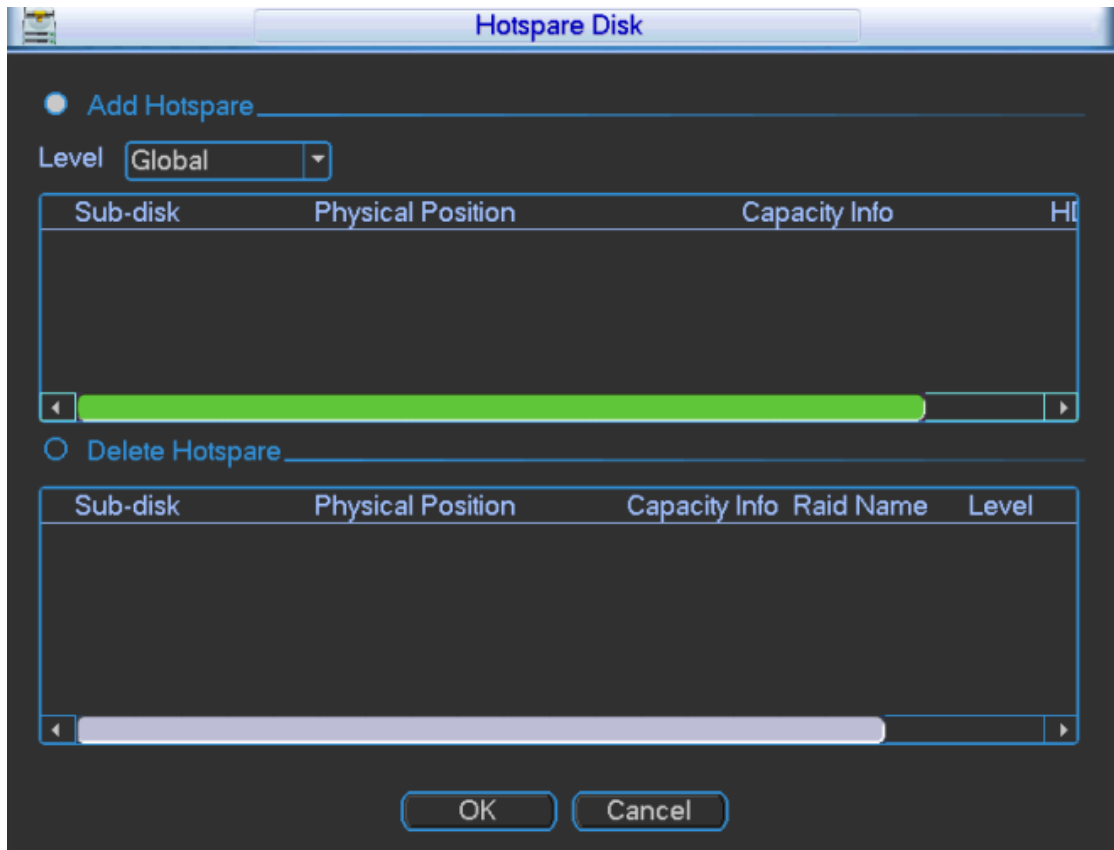

Figure 3-80
Step 1 Click "Hotspare Disk". The system displays "Hotspare Disk" interface, as shown in Figure 3-80.